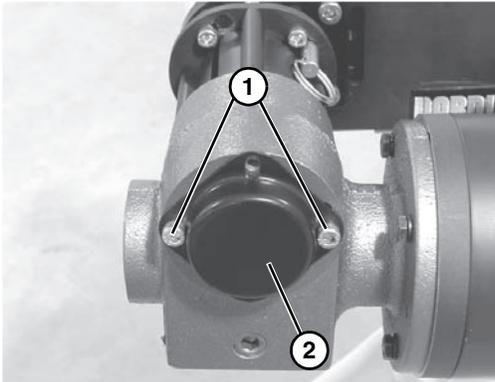

Figure 8
1. Remove two (2) screws (**Figure 8, item 1**) and remove drive shaft cover (**Figure 8, item 2**).
- Install cover (**Figure 8, item 2**) and tighten two (2) screws (**Figure 8, item 1**) to 50 in-lbs (5.6 N-m).